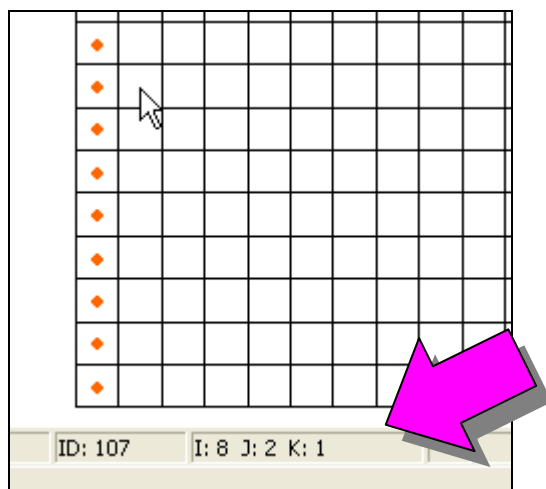

Figure 3. IJK indices of cell under cursor.
2. Notice that as you move the cursor across the grid, the ijk indices of the cell beneath the cursor are displayed in the *Edit Window* at the bottom of the screen, as shown in Figure 3.